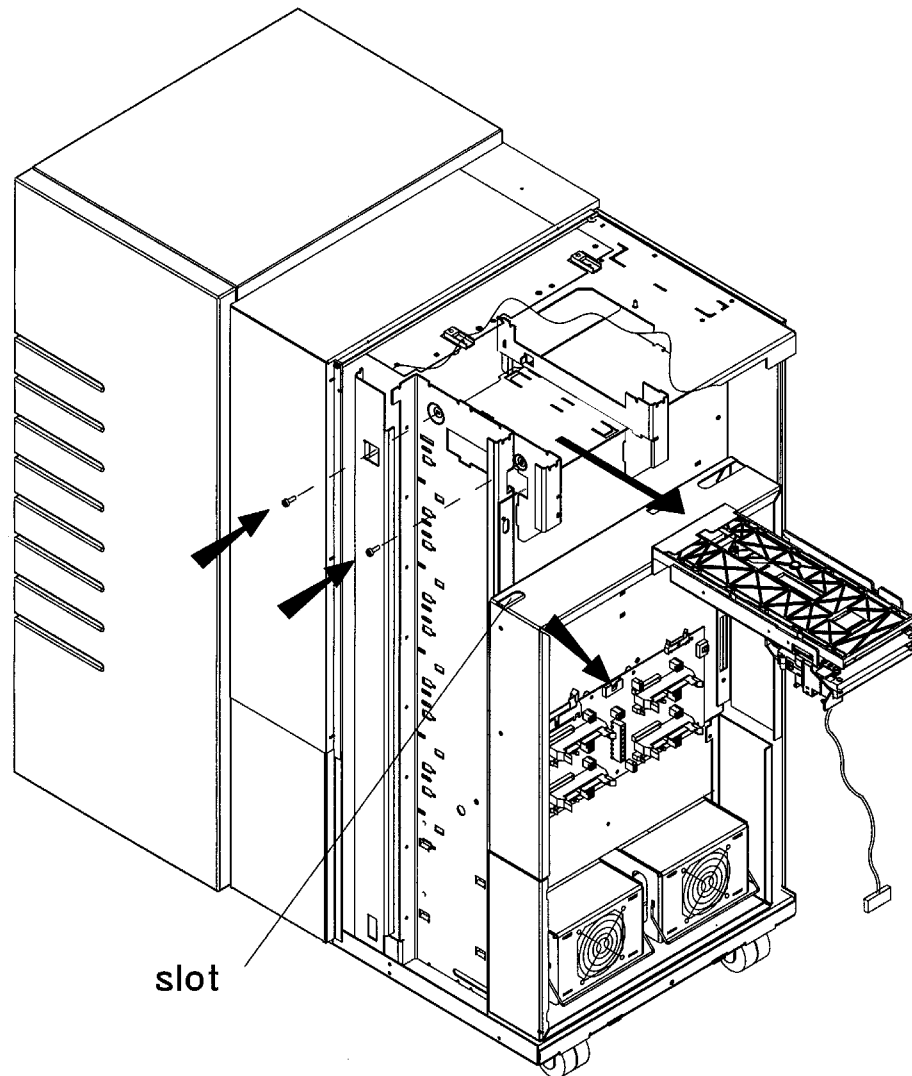

Figure 55: Removing the Mailslot Assembly
2. Ensure that the mailslot sensor cable is disconnected from the upper interposer PCA (see Figure 55).
3. Remove the two T-20 mailslot mounting screws from the bottom of the mailslot (#2 on Figure 55).
4. Slide the mailslot out of the jukebox (see #3 on Figure 55).